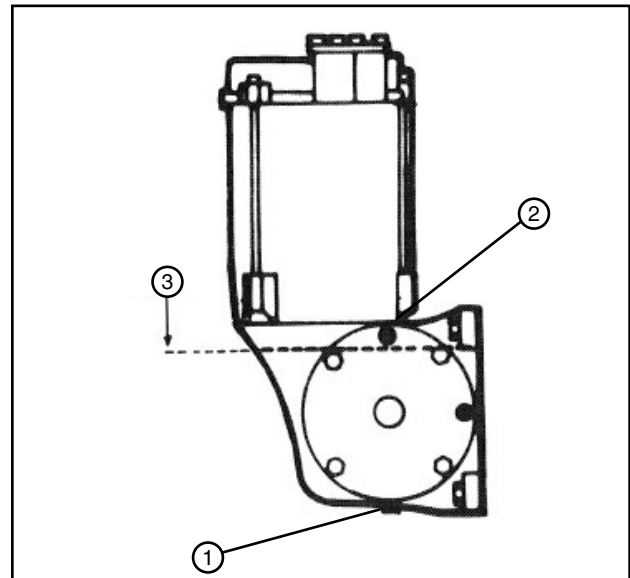

Figure 93-2 1. Drain Plug
1. Remove the drain plug and the fill plug. Drain the oil and install the drain plug. See Figure 93-2.
2. Fill the gearbox to within 1/2 in (12.7 mm) of the bottom of the fill plug hole with Valley Gear Lube. The capacity of the gearbox is approximately 1 quart (0.9 liter). See Figure 93-2.